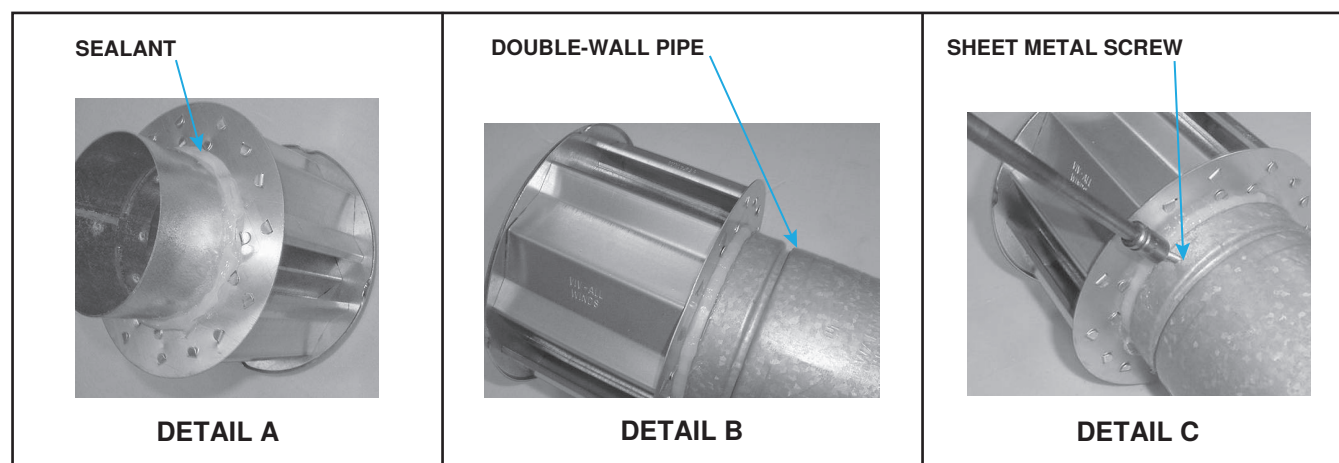

Figure 11. Connecting Double-Wall (Type B) Pipe to Vent Cap
- a. Apply continual 3/8-inch bead of silicone sealant around circumference of vent cap collar (see Figure 11, DETAIL A) to prevent any water inside vent cap from running down double-wall pipe.
- b. Before sealant has any time to dry, insert collar on vent cap as far as possible inside inner wall of double-wall pipe (see Figure 11, DETAIL B).
- d. Secure vent cap to double wall pipe by drilling hole and inserting 3/4-inch-long sheet metal screw into vent cap collar (see Figure 11, DETAIL C). Do not overtighten screw.